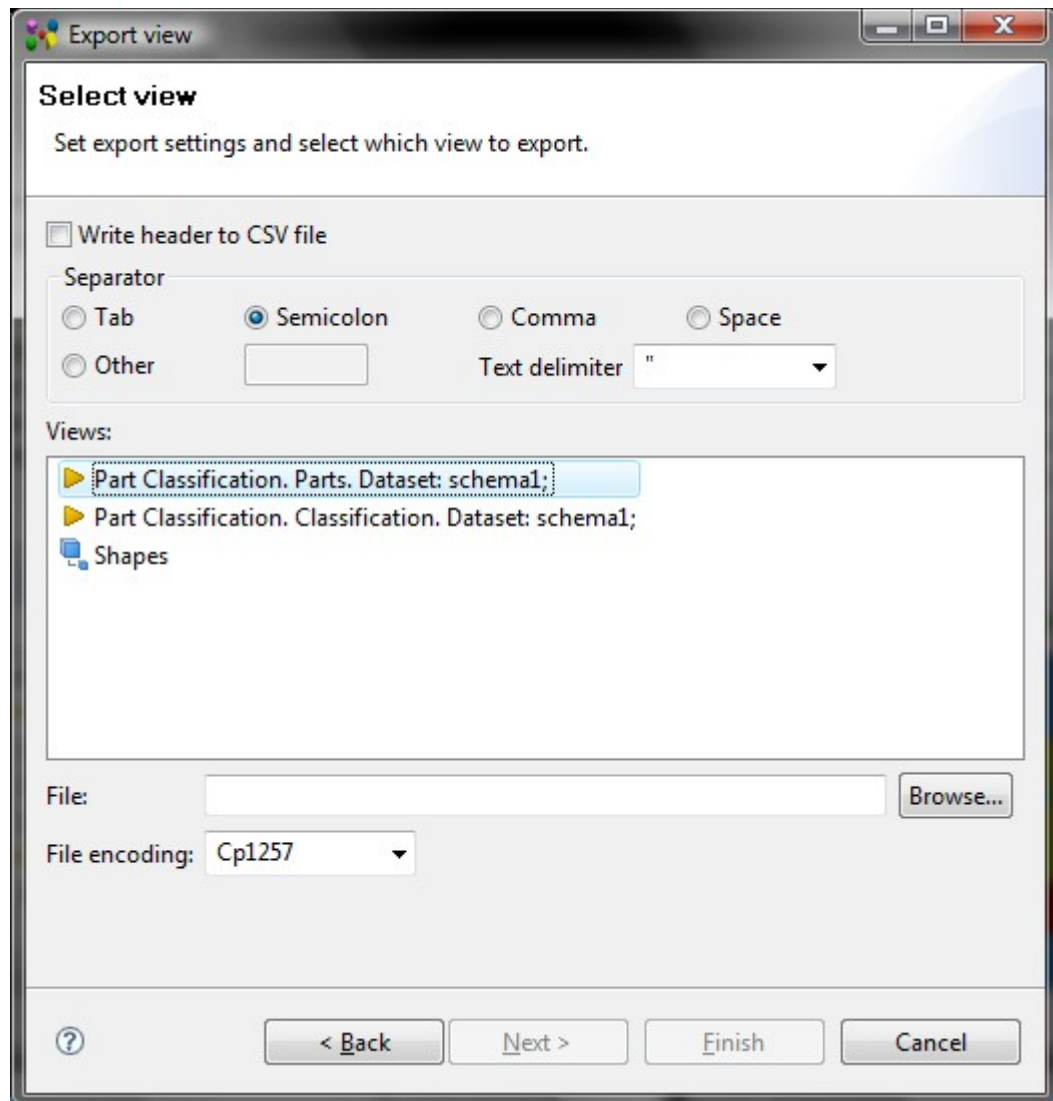

Figure 2. Export to CSV wizard window
- The **Export view** to set export settings and select which view to export appears on the screen (see Figure 2):